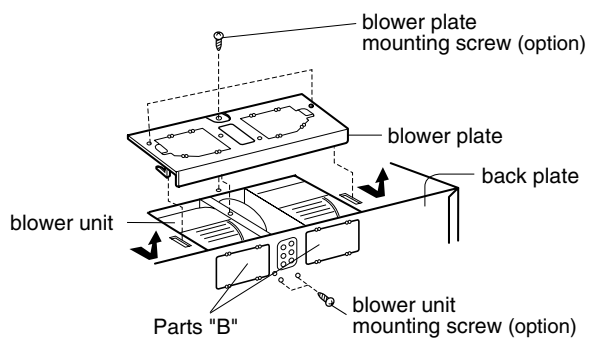

Figure 17
1. Remove blower unit mounting screw and blower plate screws. Remove the blower plate from cabinet. See Figure 17.